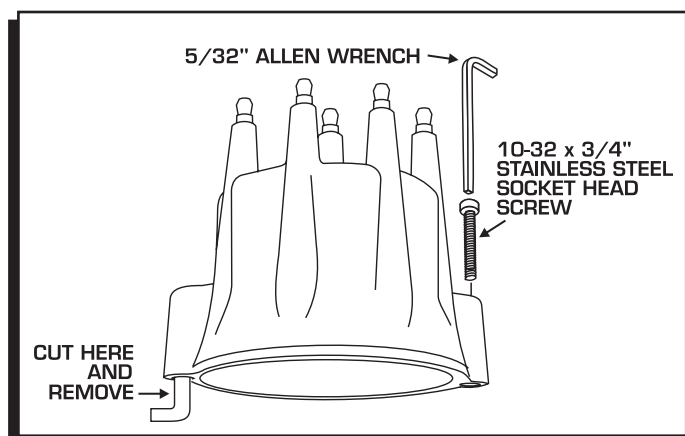

Figure 11 Optional Installation by Bolting Cap Down.
**Installation Option:** This Cap can also be bolted down to an MSD Pro-Billet or Billet Distributor base with the supplied hardware. To accomplish this, the spring clips must be cut off (Figure 11).